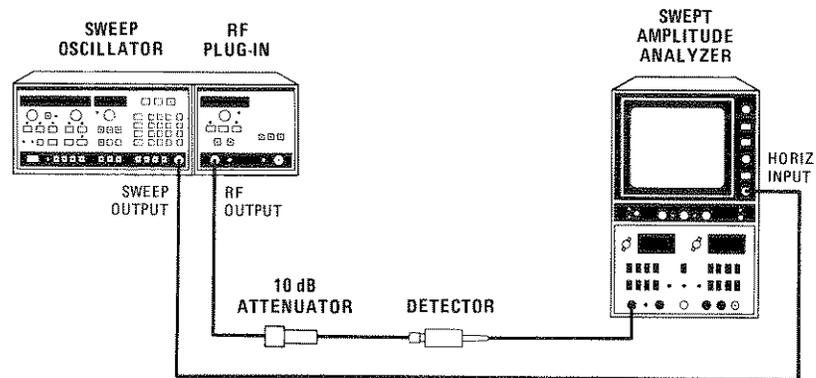

Figure 5-37. Power Sweep Test Setup
1. Connect the equipment as shown in Figure 5-37. On the 8350A, press **INSTR PRESET** **MOD** . Allow the equipment to warm up for one hour.